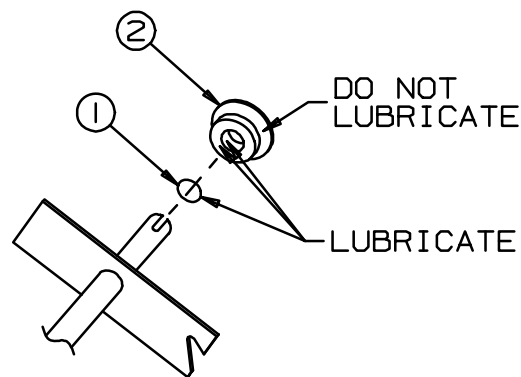
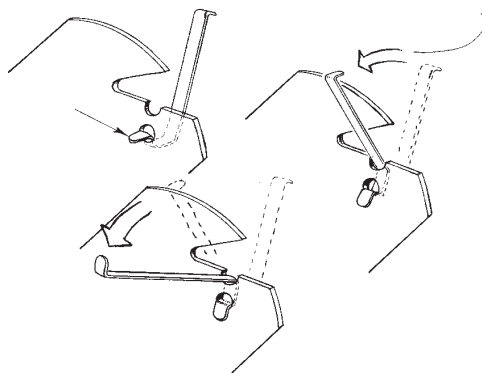

Figure 7-2 Lubricate quad ring
Figure 7-3 Attach springs to beater
2. Slide the quad ring (figure 7-2, item 1) over the rear of the beater shaft and apply a liberal amount of lubrication.
3. Install the shaft seal assembly (2) over the rear of the beater shaft, with the bell-shaped portion facing the rear and the bushing portion against the quad ring.
4. Attach the blade springs to the beater plates, as shown in figure 7-3.